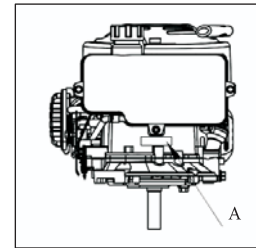

Fig. 15 A: Serial number location
13.1 SERIAL NUMBER LOCATION (See Fig. 15)